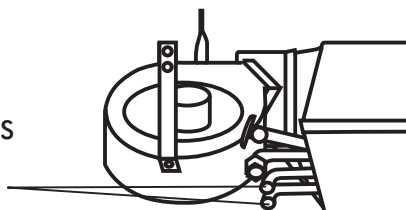

FIGURE 6
- IT'S BEST TO CONNECT THE REAR HEATER HOSES BEFORE INSTALLING THE EVAPORATOR. CUT TWO 24" LONG PIECES OF 5/8" HEATER HOSE. USING HOSE CLAMPS, CONNECT ONE TO EACH LINE ON THE EVAPORATOR. SEE FIGURE 6 BELOW. YOU WILL NEED THREE (3) 90 DEGREE x 5/8" HOSE FITTINGS AND TWO (2) 5/8" "T" FITTINGS TO COMPLETE THE HEATER HOSE ROUTING. ROUTE HOSES AS SHOWN IN FIGURE 14, PAGE 12.
HEATER HOSES-SEE FIGURE 6 (PG.4)